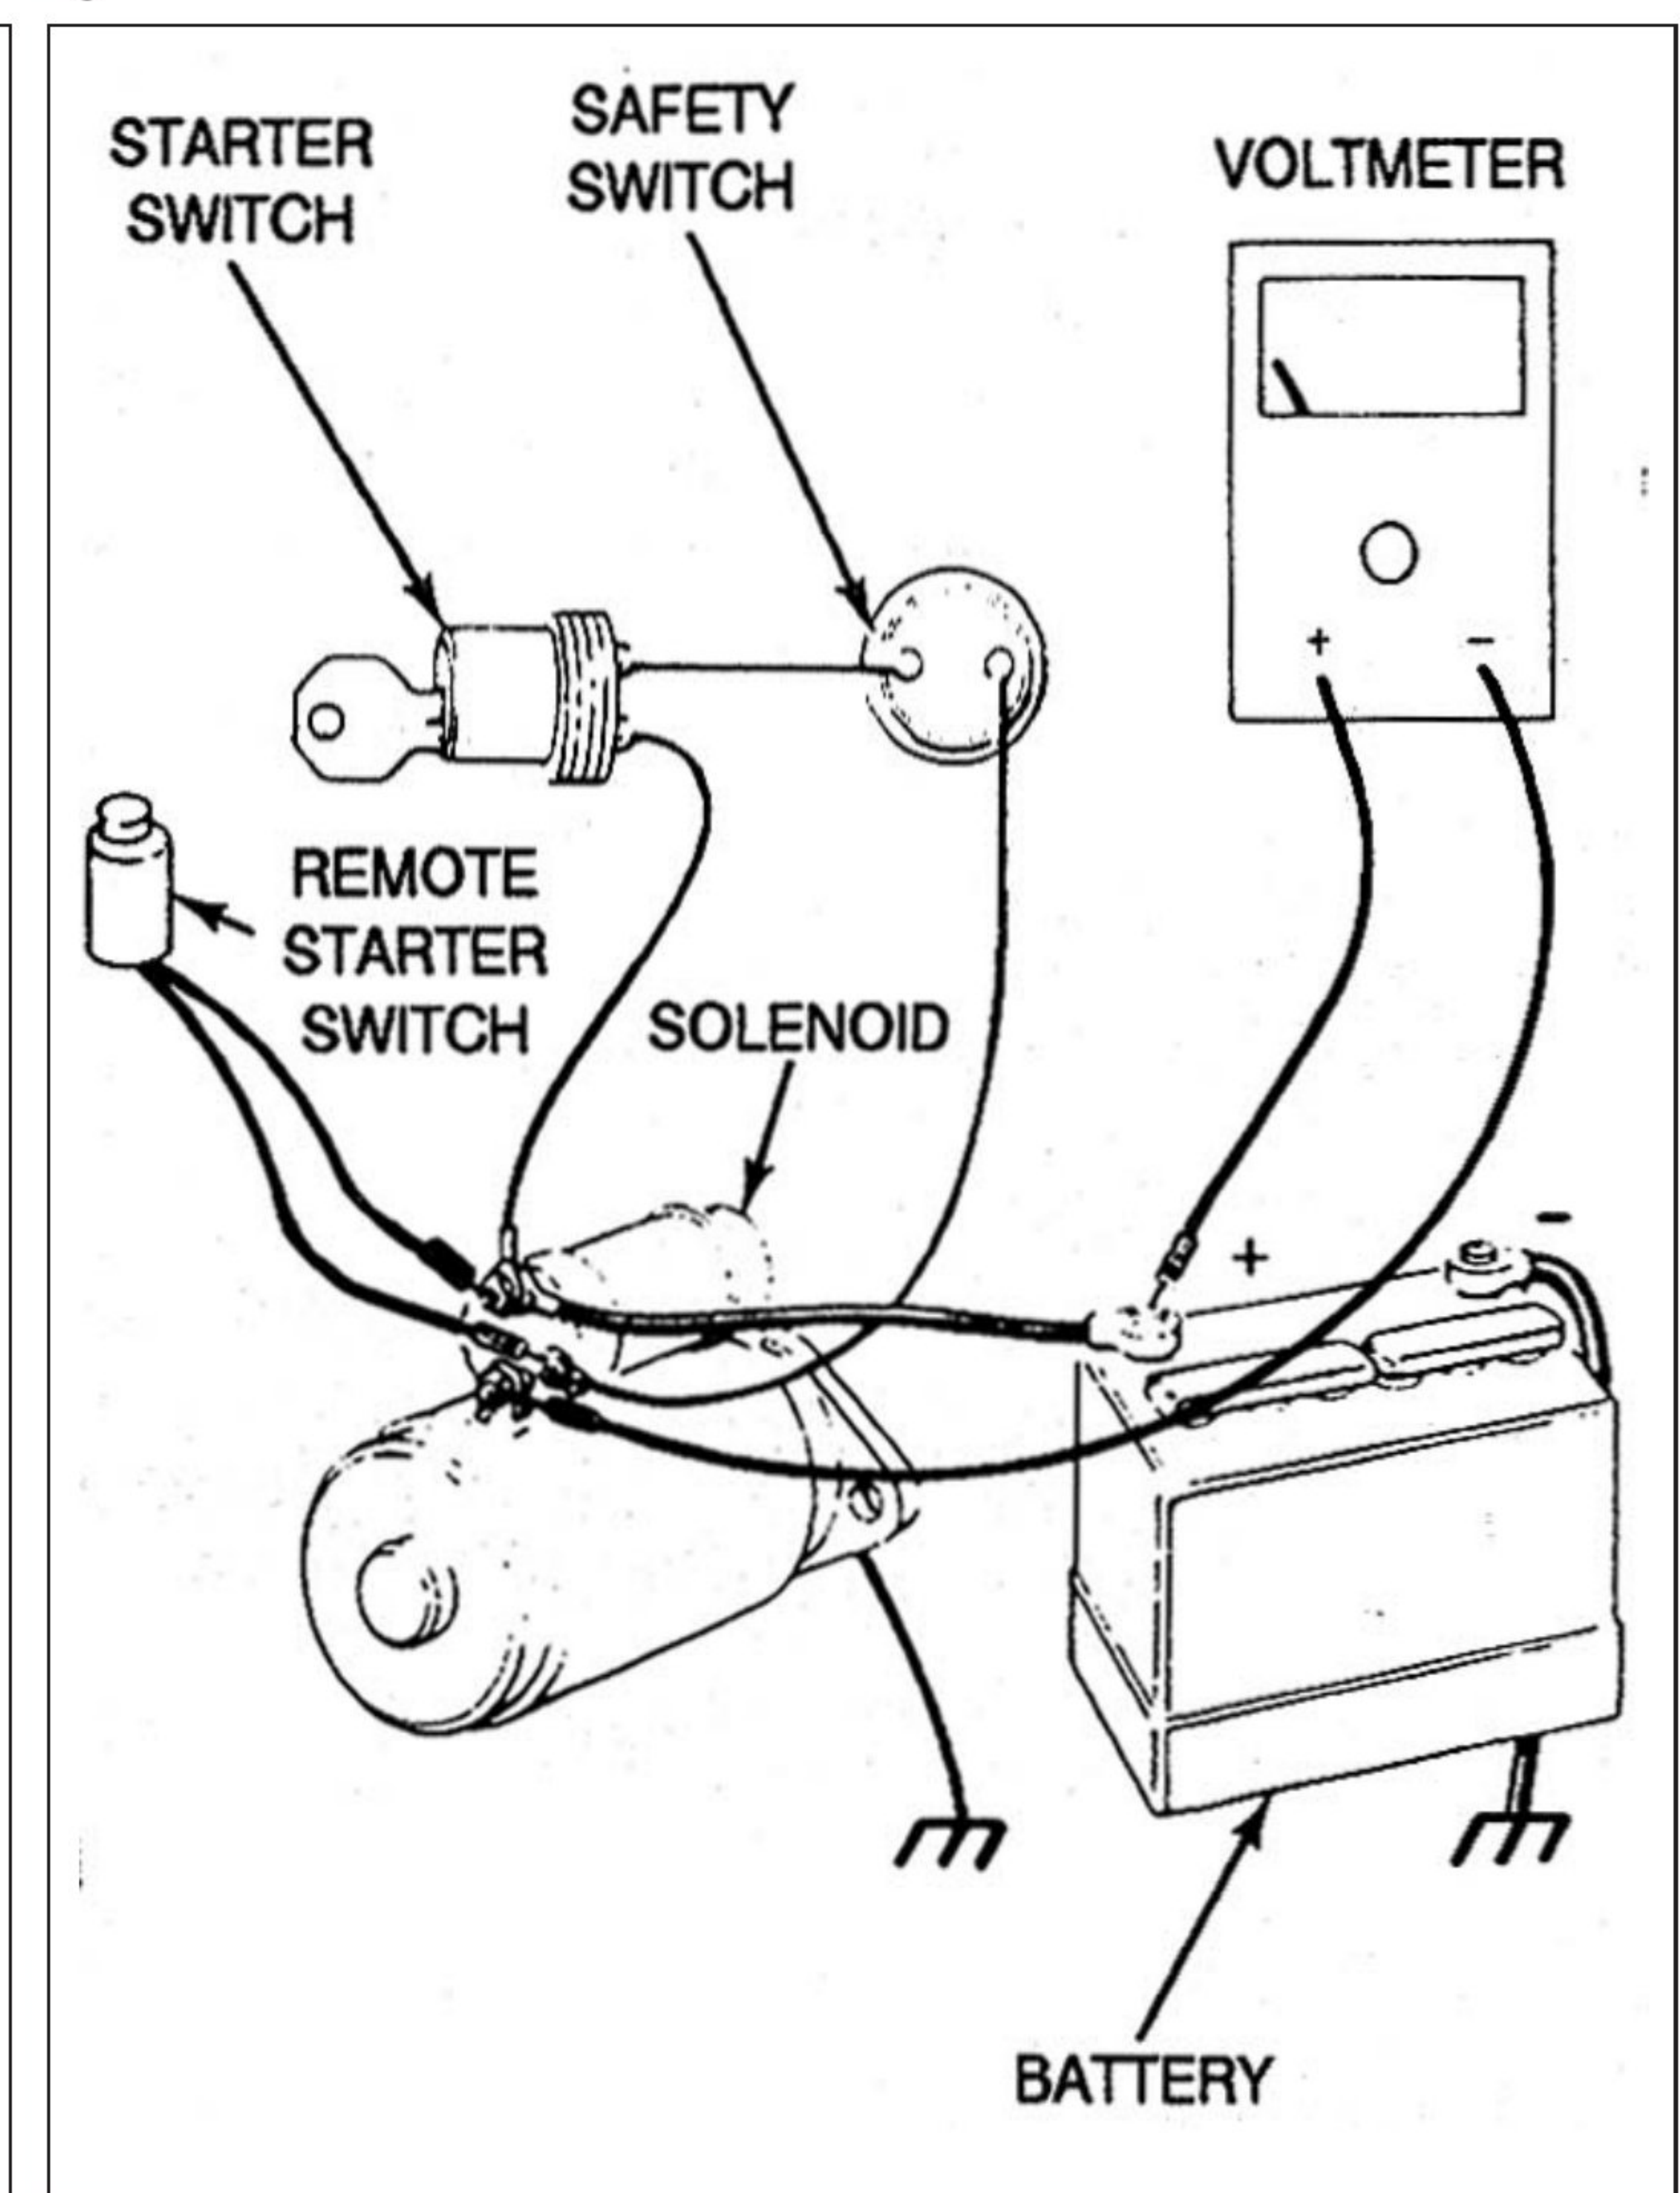

Figure 1-32 — Checking Insulated Circuit
3. Connect the voltmeter between the battery positive terminal and the starter high current terminal (Figure 1-32).